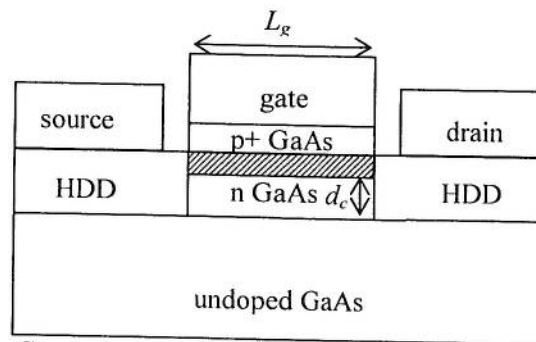

Figure 1.2: Cross section of a JFET with a gate length L_g , gate width W_g and undepleted channel depth d_c . The cross hatched area is depleted.
- c) Figure 1.2 gives a cross section of a JFET with a small negative gate voltage and small positive drain voltage (triode region) applied. Use Ohm's law to write a simple expression for the drain current I_{DS} as a function of the relevant geometrical parameters and the doping density in the channel region.